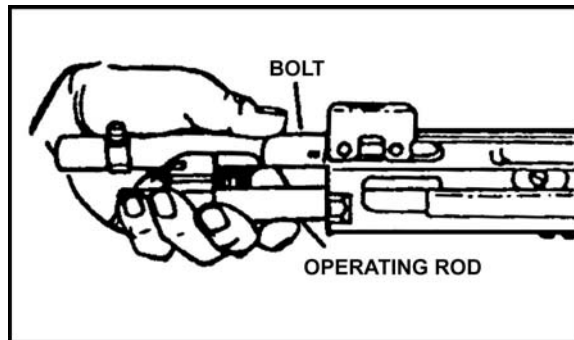

Figure 5. Operating rod and bolt.
- (6) Grasp the operating rod and bolt when they are about 4 inches out of the cylinder to prevent the bolt from rotating.
- (7) Pull the operating rod and bolt from the receiver (Figure 5).